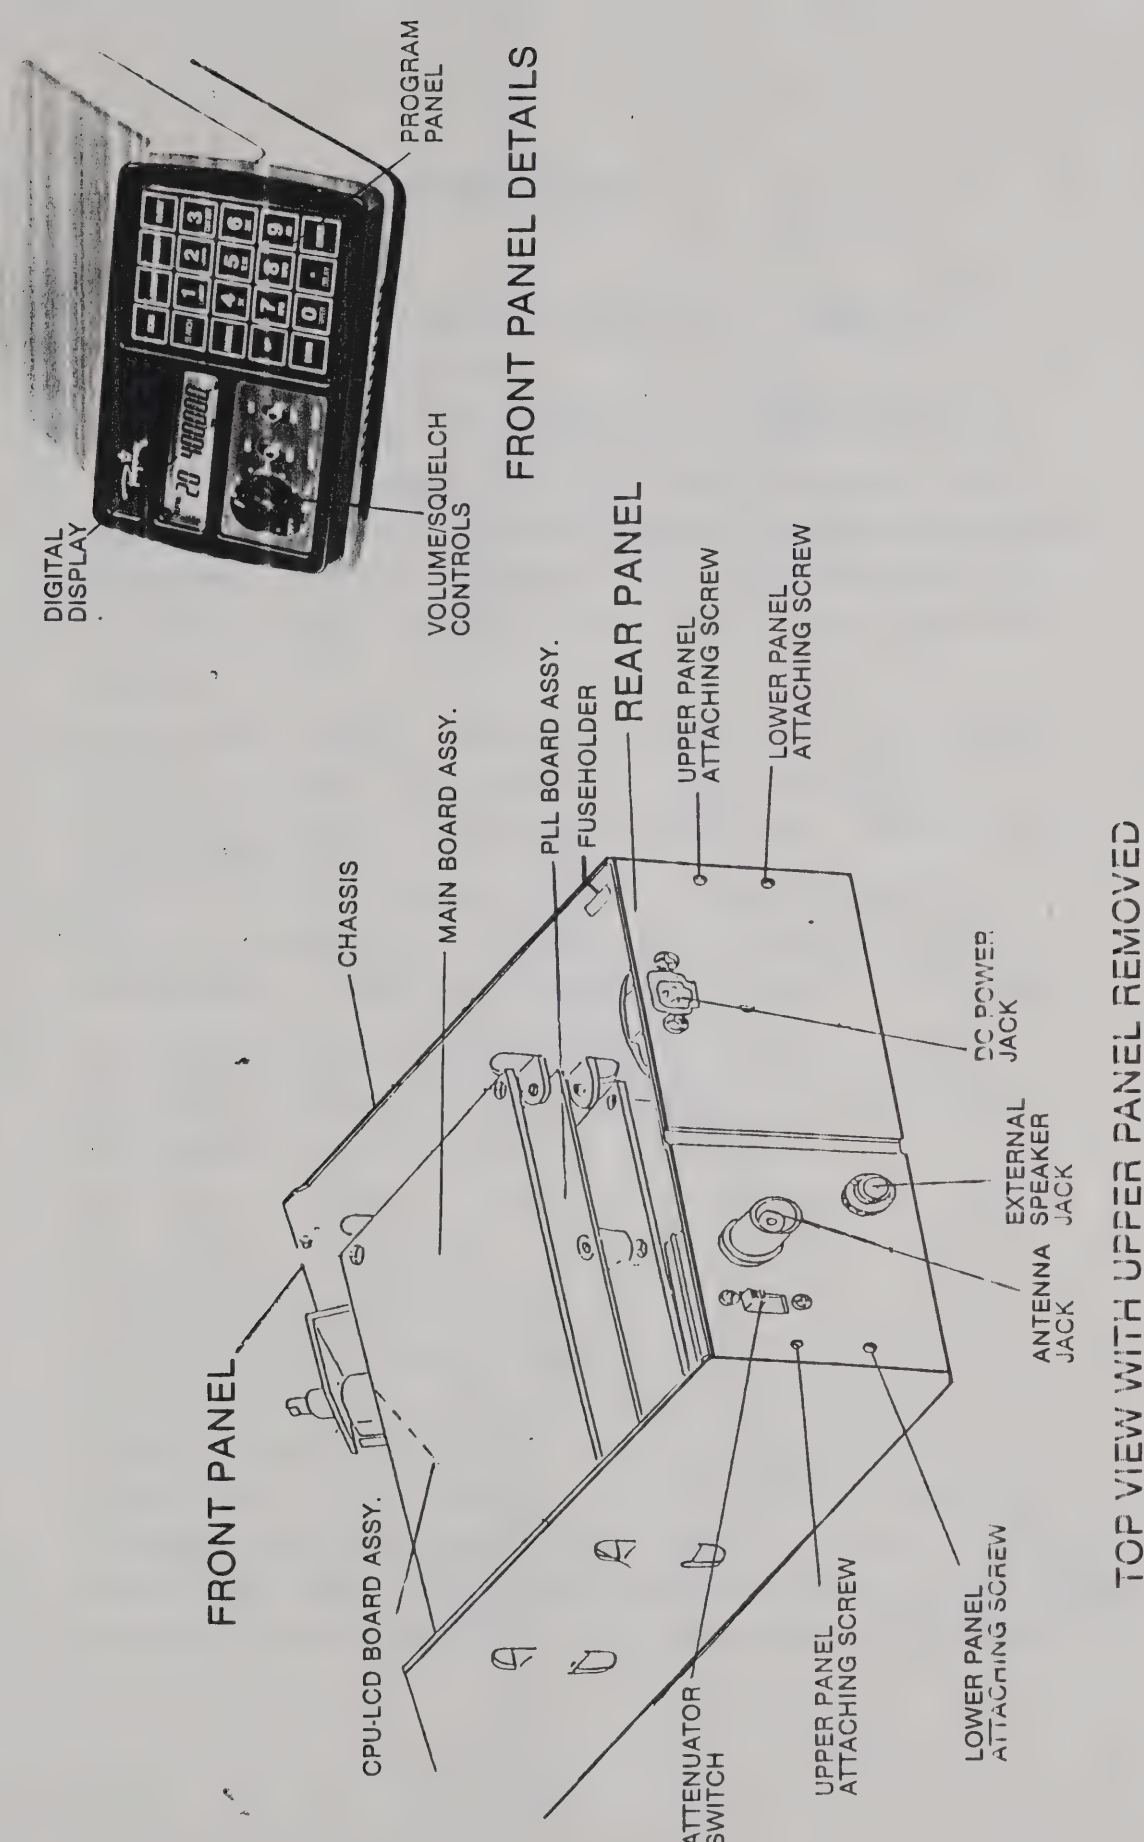

Figure 1-1. Location of Major Components
Figure 1-1 shows the major components. These consist of:
- c. Remove two screws at rear, attaching top panel to chassis. Gently lift top panel up and pull back to remove. This will expose the Main Board Assembly and Figure 1-1 for screw locations.